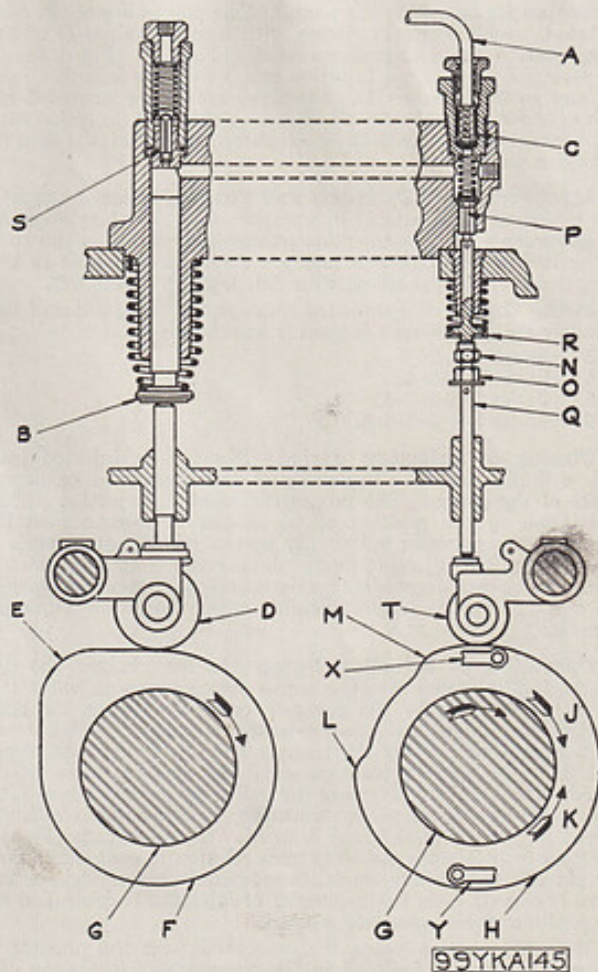

Fig. 1. Injection Pump and Governor Cam Diagram
Index to Diagrams—The following parts are indicated on Figs. 1 and 2 to illustrate the discussion of the fuel injection and governing system.
- (R) Injection pump suction upper push rod stem.
- (S) Relief valve.
- (T) Governor cam roller.
- (U) Governor weight; centrifugal force throws the weight out.
- (V) Pivot of the governor weight.
- (W) Governor spring adjusting screw; tighten to increase the speed and loosen to decrease the speed.
- (X) & (Y) Governor weight to governor cam pull rods.
- (Z) Governor spider, with governor weights, clamped in fixed relation to the crankshaft.
Fuel Injection System—The fuel injection system includes the individual injection pumps, fuel tubes, and differential fuel injection valves for each cylinder, also the driving and control mechanism for operating the pumps. The pumps are of the cam operated, constant stroke design with suction valves (P), discharge valves (C), and pressure relief valves (S). Fig. 1 shows the essential parts of one injection pump with the injection cam (F) and governor cam (H). Identical pumps are provided for each cylinder, but they are all driven by the same injection cam (F), rockers being placed at equal distances around the cam to make this possible.